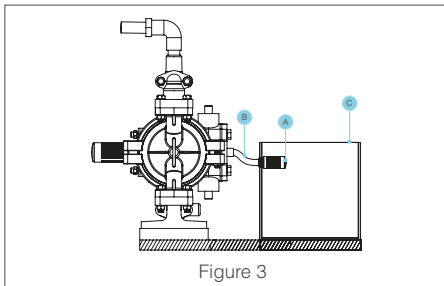

Figure 3
- Carry air outlet to a secure environment with pipe. In case of diaphragm explosion, since flammable material will move out with pressurized air, some accidents will be prevented (see page 7, figure 3).
- Installation should be made in a way to gather air outlet in a container by considering diaphragm explosion. You can see this in figure 3.